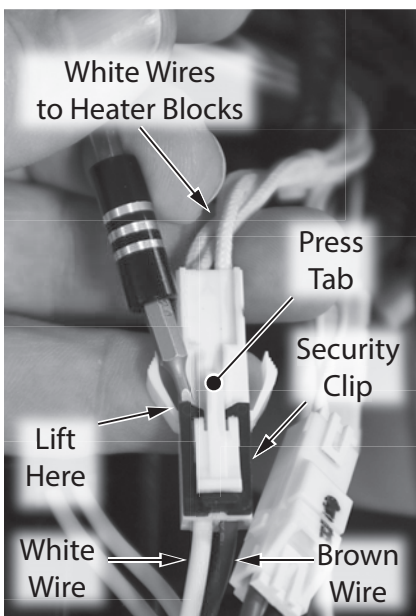

Figure 29 - Disconnect long heater block wiring from control board
- 12 Locate the wire connection between the long heater block assembly and the reverse side of control board. To disconnect, gently remove the security clip with a mini pick or fingernail. Push tab as shown in Figure 29. Separate the harnesses. Place security clip aside in a safe place for reinstallation.